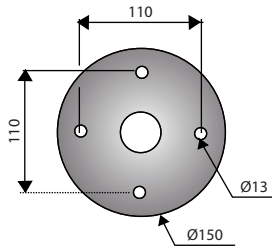

FIG. 1
- When you install IR PTZ Camera on the pole, make 4 holes at the edge with Ø13 in diameter and 37mm in depth. Make also a hole for the cables with about Ø30 ~ 50 in diameter in the bottom center of the bracket. (FIG. 1)